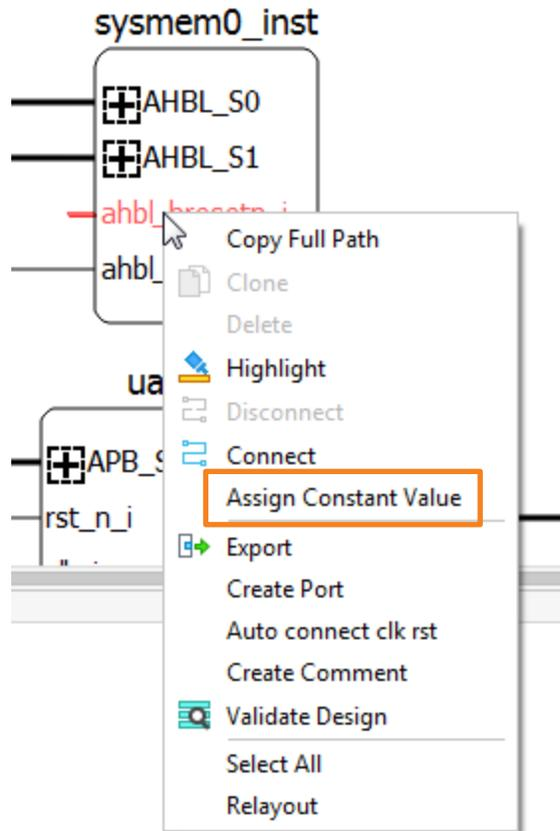
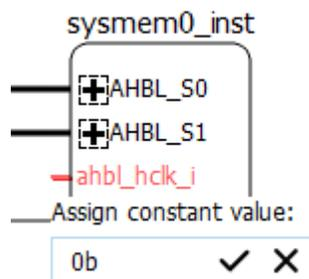

Figure 2.47. Action Menu of Right-clicking an Input Pin
Figure 2.48. Dialog Box of Assigning Constant Value to an Input Pin
- a. Select the desired pin and right-click the pin. Choose **Assign Constant Value** (Figure 2.47). A small dialog box appears (Figure 2.48).